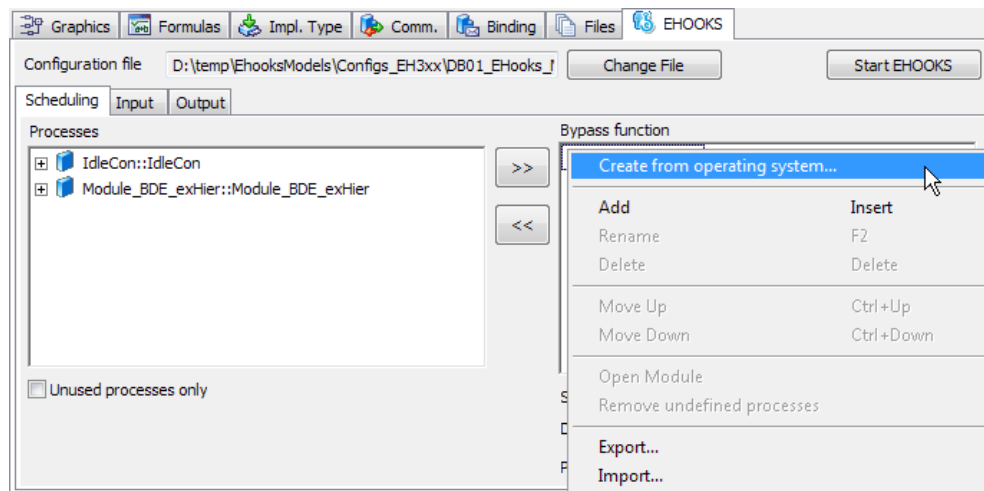

Figure 4.26: Copying an existing configuration from another target
2. In the "Scheduling" sub-tab, right-click in the "Bypass function" field and select **Create from operating system** from the context menu (see Figure 4.26 on the next page).